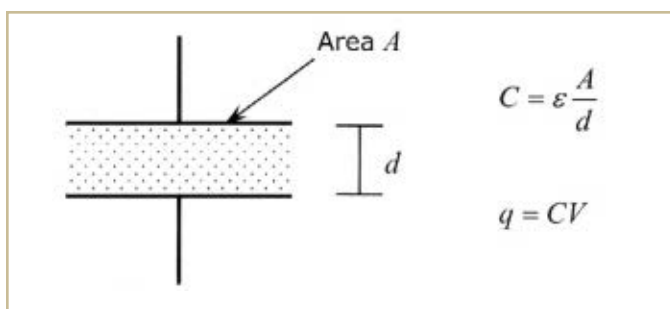

Figure 1. The physical and electrical parameters affecting capacitance.
Capacitors exist in a perplexing variety of physical forms, sizes, and characteristics. A capacitor stores energy as an electrostatic field between its plates. This ability to store an electrical charge is like a “temporary battery” (see **Figure 1**). This formula shows that the dielectric constant ϵ , the spacing between plates d , and the area of the plates A all determine C or capacitance. Its unit symbol is the Farad (F). Common capacitor values range from microFarads (μF , 10^{-6} F), through nanoFarads (nF, 10^{-9} F) down to picoFarads (pF, 10^{-12} F). Making d thinner will increase capacitance but the trade-off is less ability to withstand higher voltages since voltages can “push through” the dielectric. There are some self-healing capacitors, however.
Unlike batteries, capacitors do not use electrochemical reactions for their source of charge. Placing two metal plates close together and connecting a voltage across them transfers the charge across the plates at a rate dependent upon the applied voltage; see **Figure 1** again. You can really see this better with an air core (dielectric)